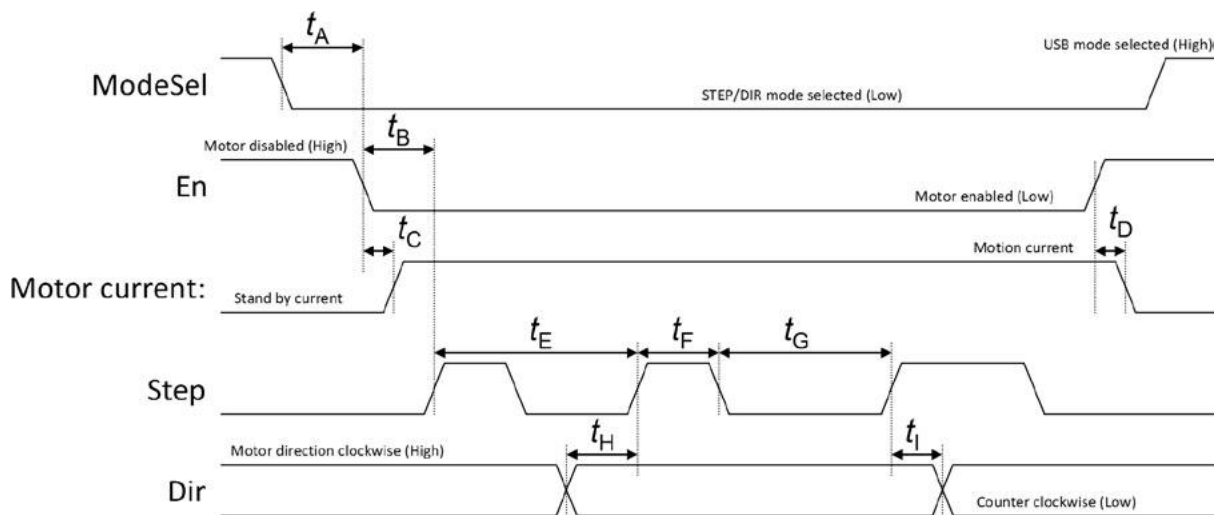

Figure 20. “Step-Dir” mode input signal timing requirements.
Watt Pilot controller consists of three blocks. Each is shown in Figure 20.
“Step-Dir” mode signal timing requirements are shown in Figure 20.
- Dir (A), Dir (K). 3.3 V - 5 V compatible input to optocoupler anode Dir (A) and cathode Dir (K). This input controls motor direction in “Step-Dir” mode. +5 V on Dir (A) pin with reference to Dir (K) sets motor direction clockwise. This input can be overridden by command parser – see “Serial commands and protocol” on page 27 and Figure 20 (SW F) on page 19 for details.
- Enable (A), Enable (K). 3.3 V - 5 V compatible input to optocoupler anode Enable (A) and cathode Enable (K). This input reduces motor current in in “Step-Dir” mode. +5 V on Enable (A) pin with reference to Enable (K) reduce motor current to “Standby current” value set in controller settings. Otherwise, “Motion current” flows to motor and “STEP” pulses rotate the motor. This input can be overridden by command parser – see “Serial commands and protocol” on page 27 and Figure 20 (SW F) on page 19 for details.